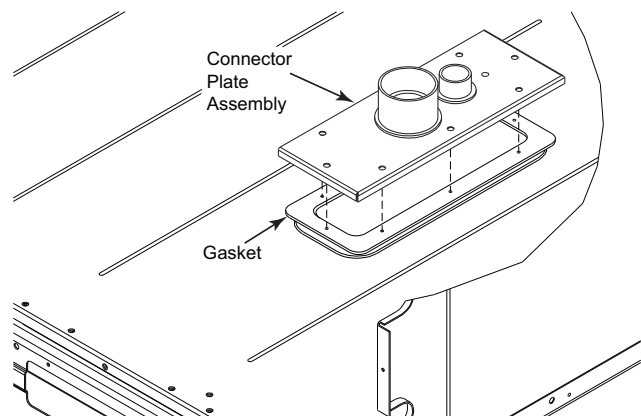

Fig. 31 — Completing Installation of Thru-the-Base Option
3. Place the gasket over the embossed area in the basepan, aligning the holes in the gasket to the holes in the basepan. See Fig. 31.